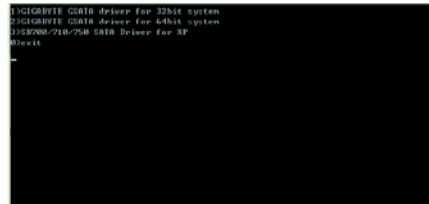
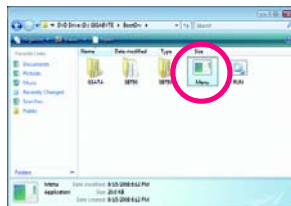

Figure 2
Figure 3
Step 2: When the controller menu (Figure 2) appears, remove the startup disk and insert the blank formatted disk. Select the controller driver by pressing the corresponding letter from the menu. For example, from the menu in Figure 2, to install Windows XP to your RAID/AHCI hard drives, select **3) SB700/710/750 SATA Driver for XP** and press <Enter>. Your system will then automatically copy this driver file to the floppy disk. Press any key to exit when finished.
Use an alternative system and insert the motherboard driver disk. From your optical drive folder, double click the **MENU.exe** file in the **BootDrv** folder (Figure 3). A command prompt window will open similar to that in Figure 2.